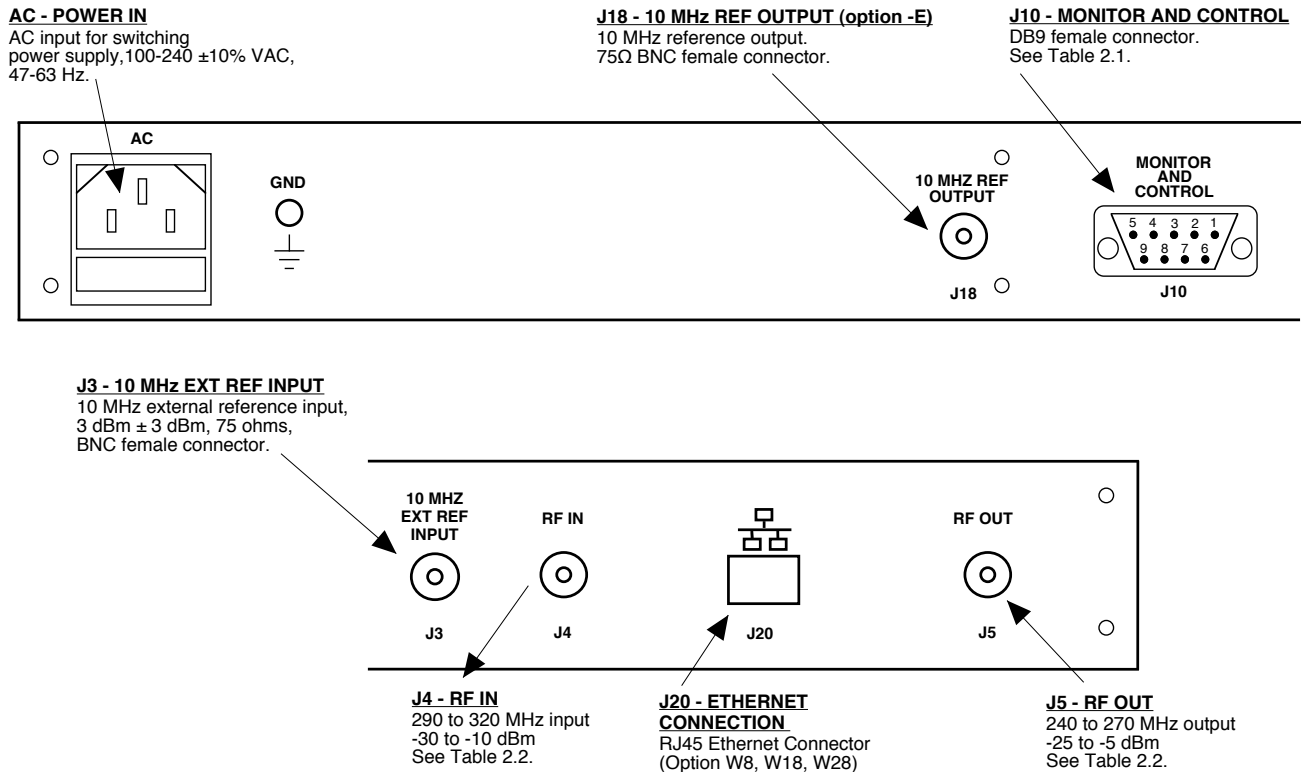

FIGURE 2.2 2083-0303 Rear Panel I/Os
2.2 Rear Panel Input/Output Signals - Figure 2.2 shows the input and output connectors on the rear panel.
1. Connect a -30 dBm to -10 dBm signal to RF IN, J4 (Figure 2.2)